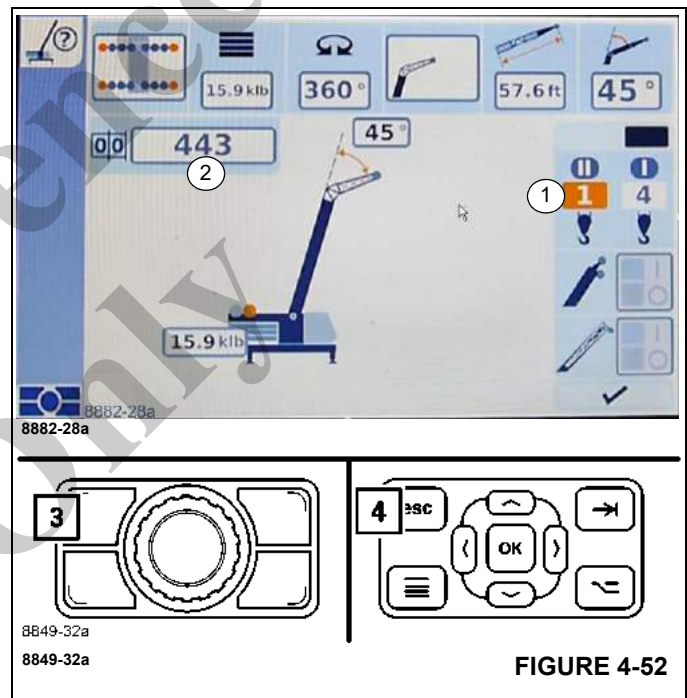

FIGURE 4-52
- Press the button (3), (Figure 4-52) or (4) once – the config menu is opened.